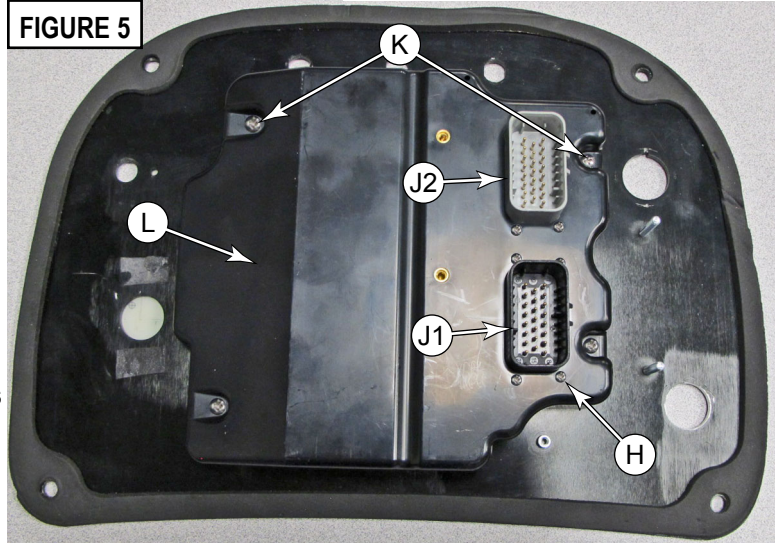

FIGURE 5
20. **See Figure 5.** Remove the 8 screws (**H**) that secure the control board cover (**L**) to the **J1** and **J2** connectors. (The connectors are part of the control board, but the back cover supports them.)